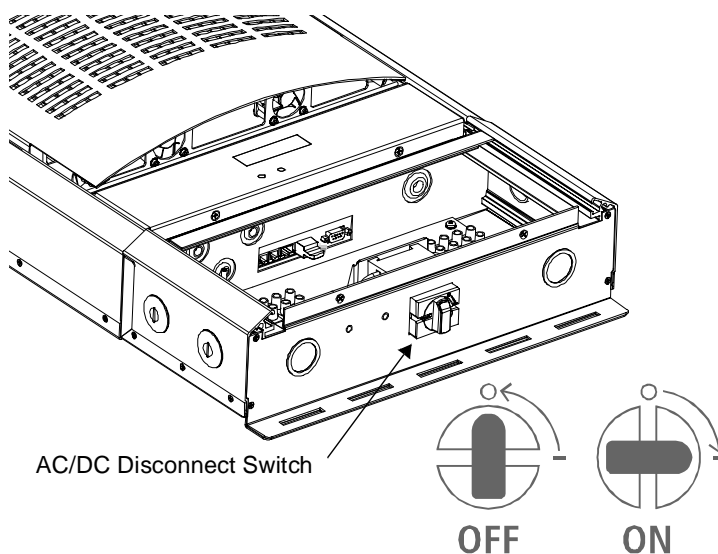

Figure 4-1 AC/DC Disconnect Switch Positions
1. Ensure the AC/DC Disconnect switch located on the bottom of the GT Inverter unit is in the OFF position (see Figure 4-1).
1. Switch the AC/DC Disconnect switch to the ON position (see Figure 4-1).